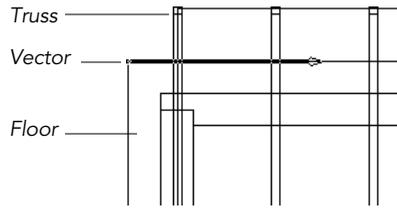

Fig. 86 Setting the surface material direction
- Move the pointer to the upper-left corner of the floor, press Shift, and drag to the right of the object. This sets the direction of the surface material (fig. 86).